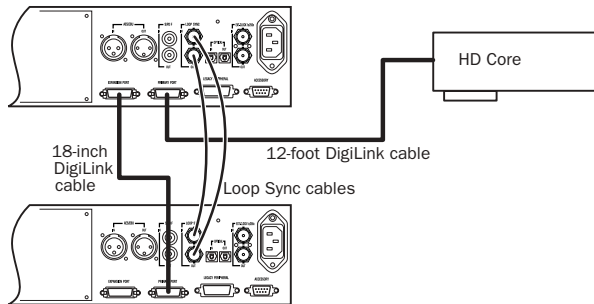

Figure 5. Two 96 I/Os, 32-channel
- 2 Connect a secondary HD-series audio interface to the Expansion port on the primary audio interface using the 18-inch DigiLink cable (included with the audio interface). See Figure 5 on page 7.